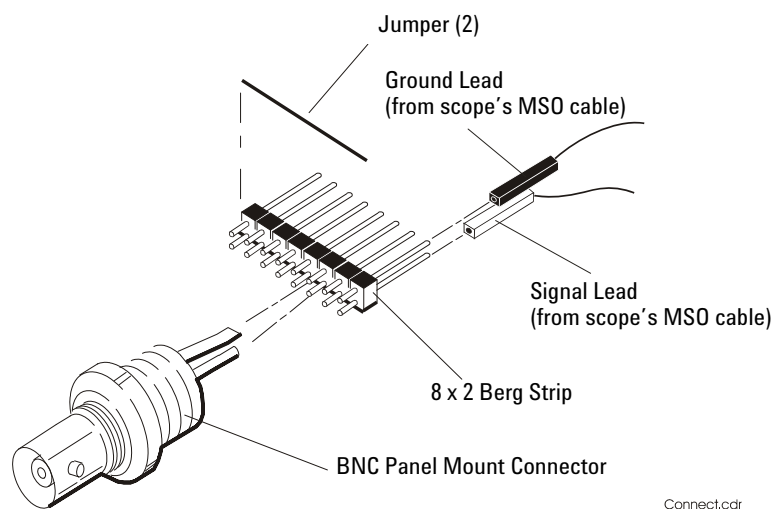

Figure 1 Constructing the 8-by-2 Connector
- 2 On one side of the Berg strip, solder a jumper wire to all of the pins (shown in **Figure 1** on page 22).